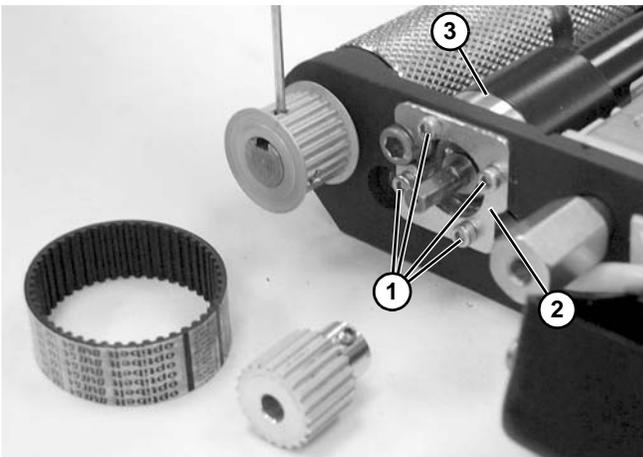

Figure 132
- Remove four clamp plate screws (**Figure 132, item 1**) and clamp plate (**Figure 132, item 2**).
- Remove and replace motor (**Figure 132, item 3**).